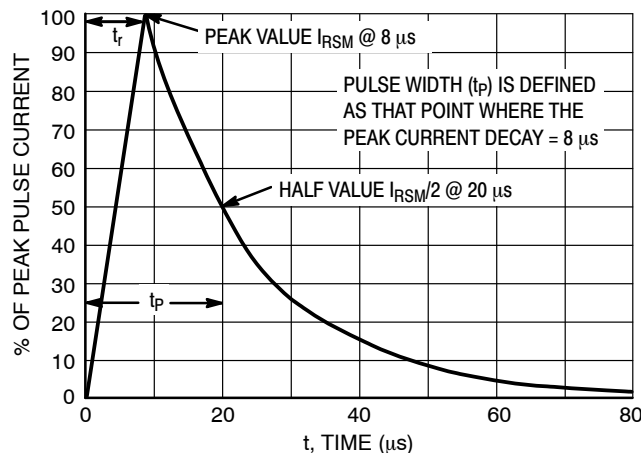

Figure 5. 8 X 20 μ s Pulse Waveform
1. Nonrepetitive current pulse per Figure 5 (Pin 5 to Pin 2).
4. Nonrepetitive current pulse per Figure 5 (Pin 5 to Pin 2).
5. Nonrepetitive current pulse per Figure 5 (Any I/O Pins).
6. Surge current waveform per Figure 5.